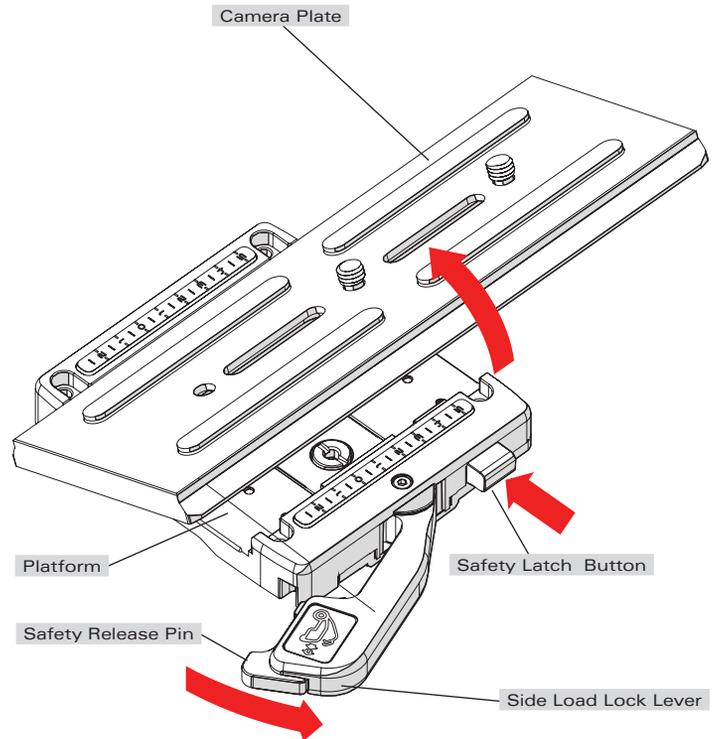

Fig. 6
- 2.1 Remove the CAMERA PLATE by pulling and holding the SAFETY RELEASE PIN then pulling the SIDE LOAD LOCK LEVER outwards. Press the SAFETY LATCH BUTTON and remove the CAMERA PLATE from the BASE PLATE (Fig. 6).